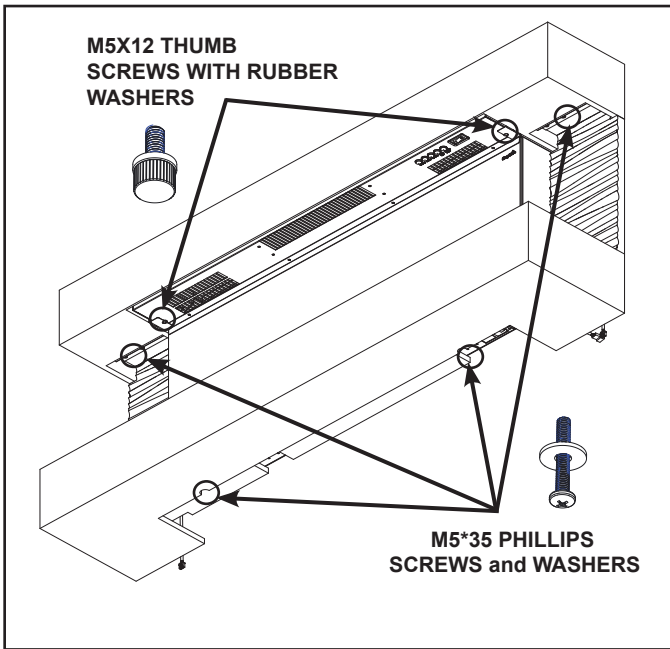

Figure 10
- Fasten the bottom mantel section to the appliance with two M5*35 Phillips screws. See Figure 10.
7. Secure the top mantel to the appliance using two (2) M5X12 thumb screws with rubber washers. See Figure 10.
8. Secure the side panels using two (2) provided M5*35 screws.